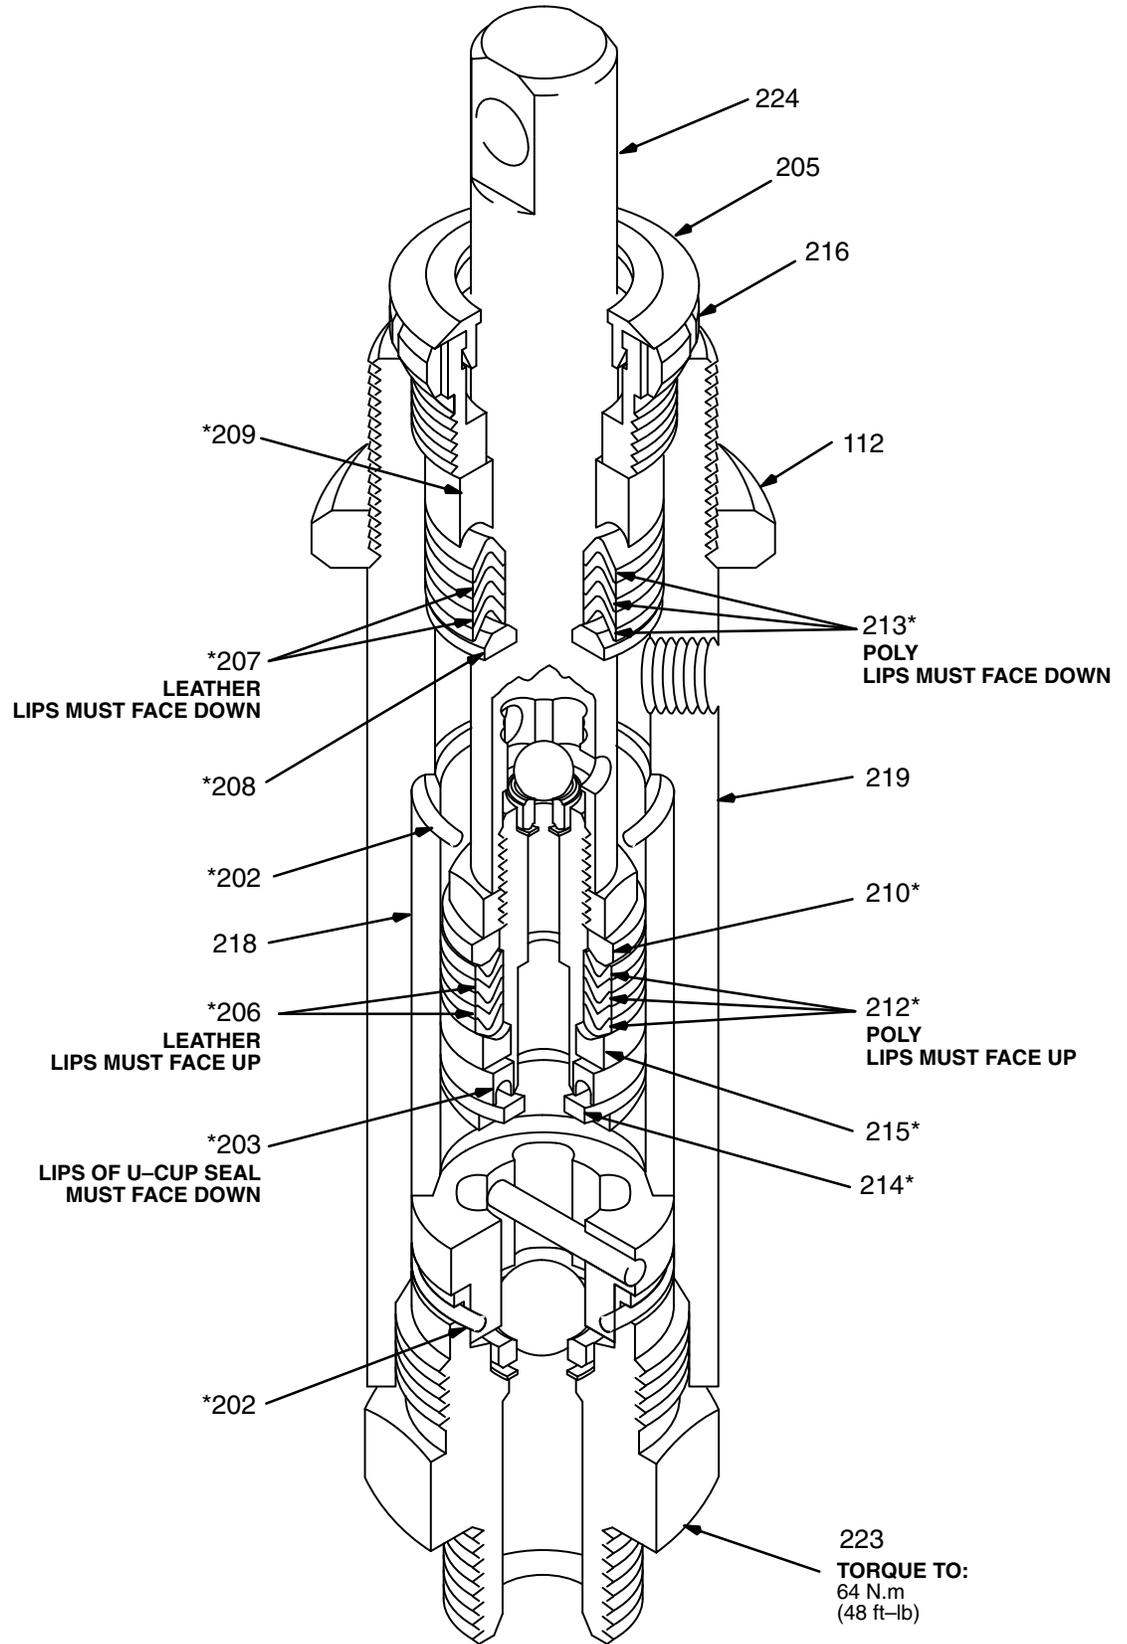

Fig 27
- B. Clean all parts thoroughly. Check the outside of the piston rod (224) and the inside of the sleeve (218) for scoring or scratches, which prevent the packings from sealing properly. Replace all worn parts.
- C. Alternate polyethylene and leather packings as shown in Fig 27. Notice that:
- 1 Stack the backup washer (214\*), U-cup seal (203\*) lips down, and female gland (215\*), alternate the polyethylene and leather v-packings (212\*, 206\*) lips up, and stack the male gland (210\*) onto the piston valve (222). See Fig 27.
- 5 Stack the male gland (208\*), alternate the polyethylene and leather v-packings (213\*, 207\*) lips down and stack the female gland (209\*) one at a time into the top of the cylinder. See Fig 27.
- 6 Loosely install the packing nut (216) and plug (205).
- 7 Place a new o-ring (202\*) firmly in the cylinder groove. See Fig 27.
- 9 Assemble the intake valve. Use a new gasket (202\*). Screw the valve into the cylinder and tighten to 64 N.m (48 ft-lb). See Fig 27.
- 10 Screw down the cylinder locknut (112) until it is finger tight at the bottom of the external cylinder threads. See Fig 27.